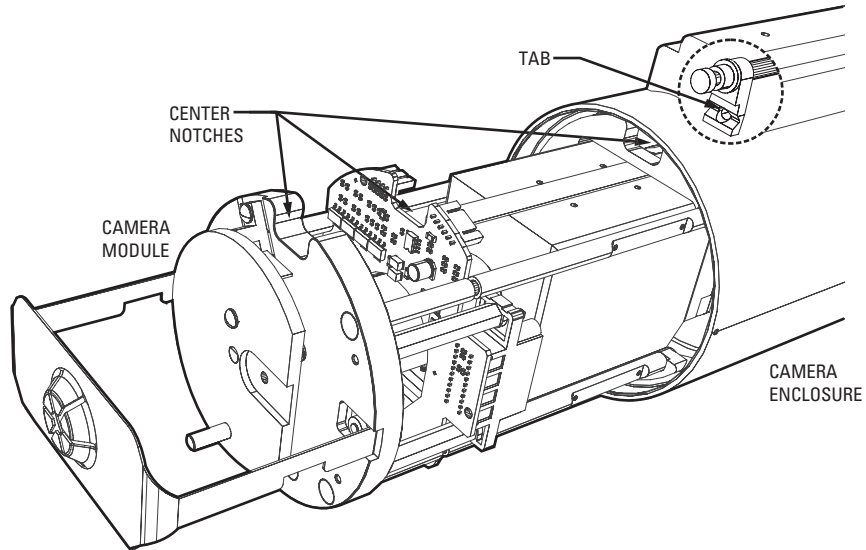
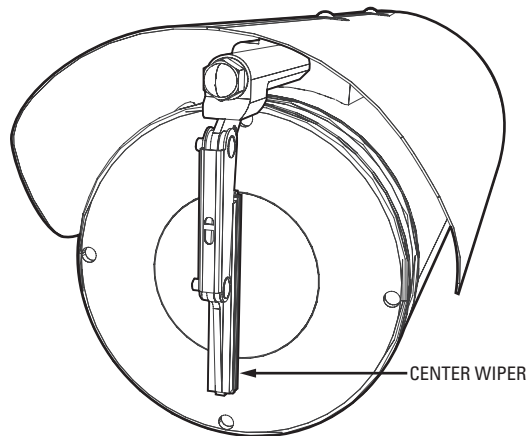

Figure 3. Install Camera Module
Figure 4. Center Wiper
- Slide the camera module into the enclosure. Refer to Figure 3 to position the camera module properly in the enclosure. Carefully mate the camera's power connector to the mating connector located inside the enclosure.
Only models with wipers: The tab located inside the enclosure must be pointing down before installing the camera module (refer to Figure 3). To position the tab, place the wiper located at the front of the enclosure in the center of the viewing window (refer to Figure 4).